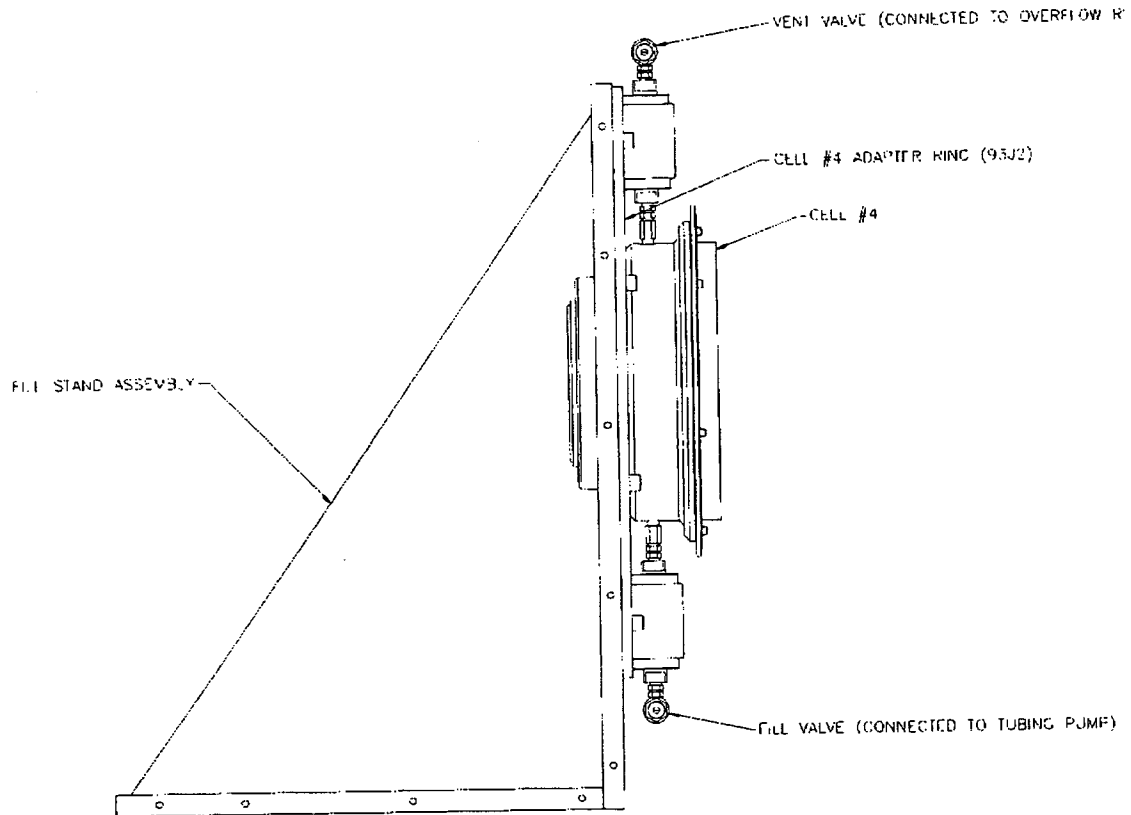

FIGURE 4: CELL #4 FILL STAND ASSEMBLY (WITH A GUSSET REMOVED FOR CLARITY)
- Cell stand with adapter rings for each cell (see figures 4, 5, 9, 10, 14, and 15)
15. Bolt the sealed cell to the filling stand with the valves lined up vertically, as shown in Figures 4 and 5.